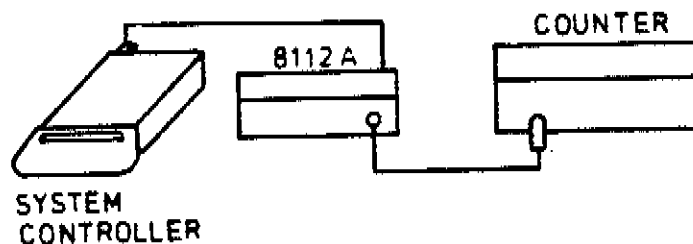

Figure 4-15. Equipment setup for HP-IB test.
1. Connect equipment as shown in Fig. 4-15.